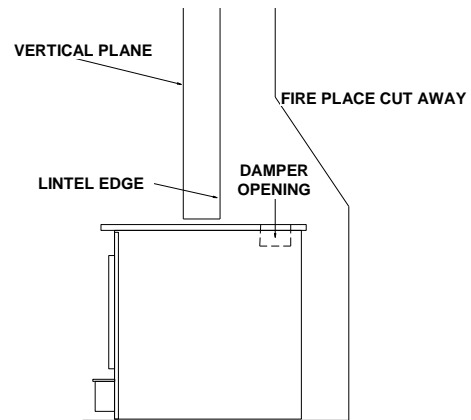

FIGURE 2 POSITIONING
When positioning heater, the following conditions **MUST** be met! (See Figure 2).
1. The front of damper opening must be positioned **BEHIND** back edge of lintel to ensure proper draft. (See Figure 2).